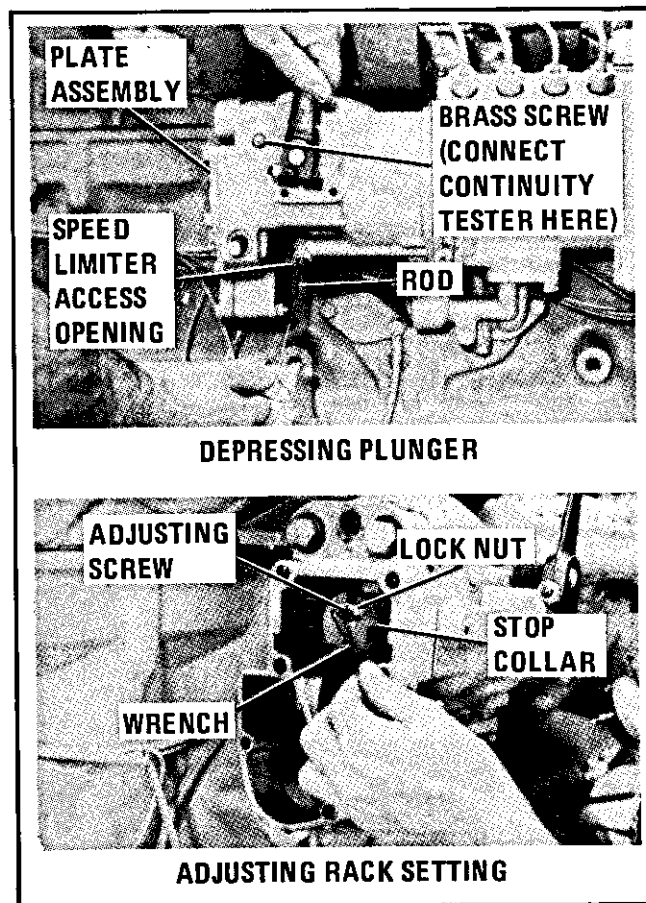

Figure 2-12. Governor assembly fuel rack setting adjustment
3. Connect a continuity tester between brass screw terminal and housing (view A, figure 2-12).
4. Remove plug and manually depress speed limiter plunger (view A, figure 2-12).
8. Remove plate assembly from governor to gain access to fuel rack stop collar adjusting screw (refer to figure 2-12). Loosen lock nut on adjusting screw.
9. Adjust screw (view B, figure 2-12) and repeat steps 5 through 7 above to obtain correct fuel rack setting.